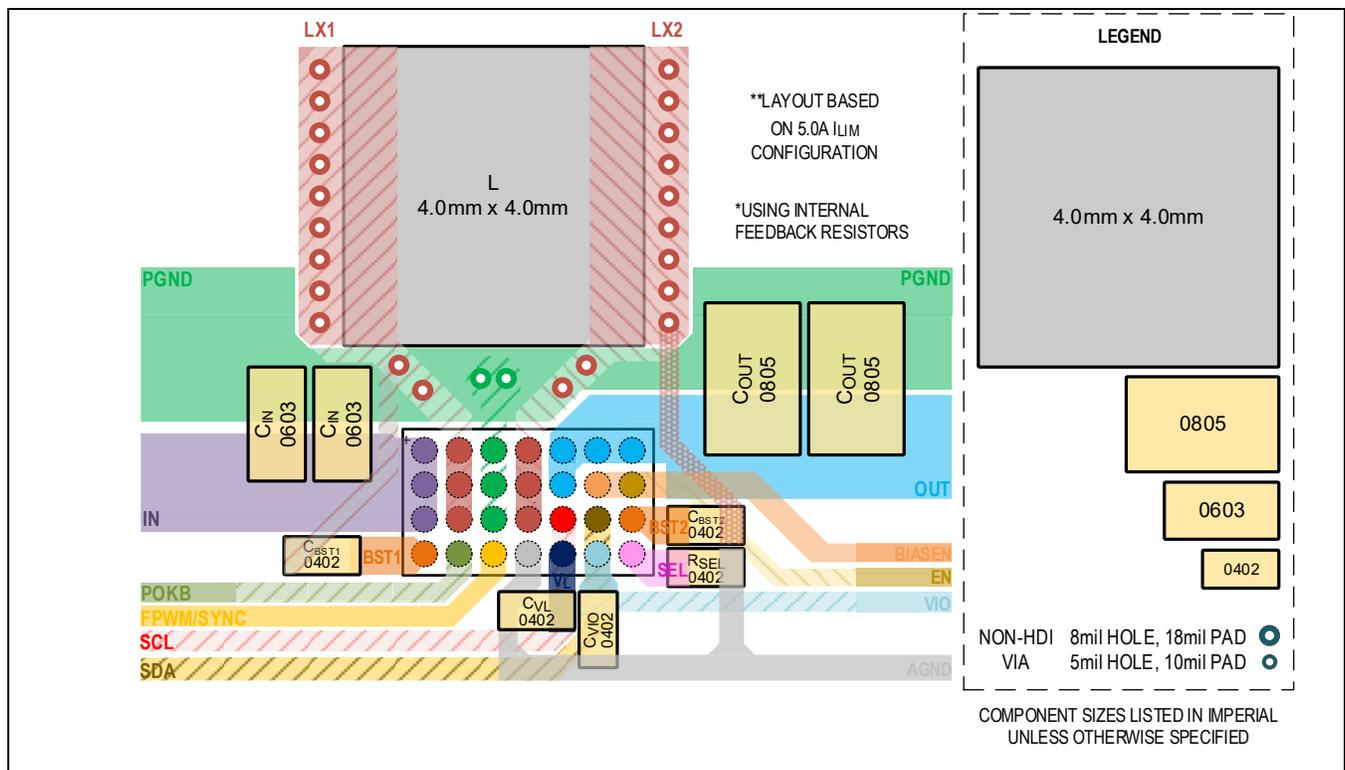

Figure 19. PCB Layout Recommendation for 28 WLP Package
Careful circuit board layout is crucial for achieving low switching power losses and ensuring clean, stable operation. A high-density interconnect (HDI) PCB is required to route to the EN, FPWM/SYNC, and POKB/INTB pins. Figure 19 shows an example layout for the MAX77845 WLP package.
- Place the inductor next to the LX bumps (as close as possible) and make the traces between the LX bumps and the inductor short and wide to minimize PCB trace impedance. Excessive PCB impedance reduces converter efficiency. When routing LX traces on a separate layer (see Figure 19), ensure to include sufficient vias to minimize trace impedance further. Routing LX traces across multiple layers is recommended to reduce trace impedance further. Furthermore, do not allow LX traces to occupy an excessive amount of space. The voltage on this node switches very quickly, and additional area creates more radiated emissions.